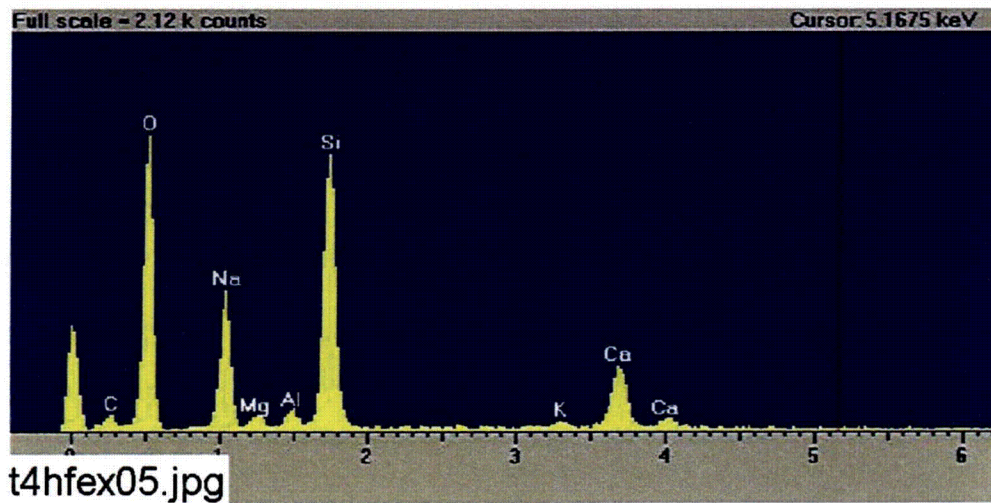

Figure C4-5. EDS counting spectrum for the spot of film between fibers shown in Figure C4-4. (t4hfex05.jpg)
- Figure C4-5. EDS counting spectrum for the spot of film between fibers shown in Figure C4-4. (t4hfex05.jpg)..... C4-6